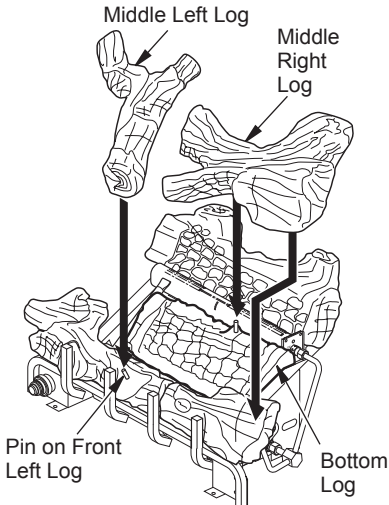

Figure 26 - Installing VUL Model Log Sets
- Place middle right log over front right and bottom logs as shown in Figure 26, page 19. Be sure hole in middle right log seats over pin in bottom log.
- Place middle left log over front left and bottom logs as show in Figure 26. Be sure hole in middle left log seats over pin in front left log.